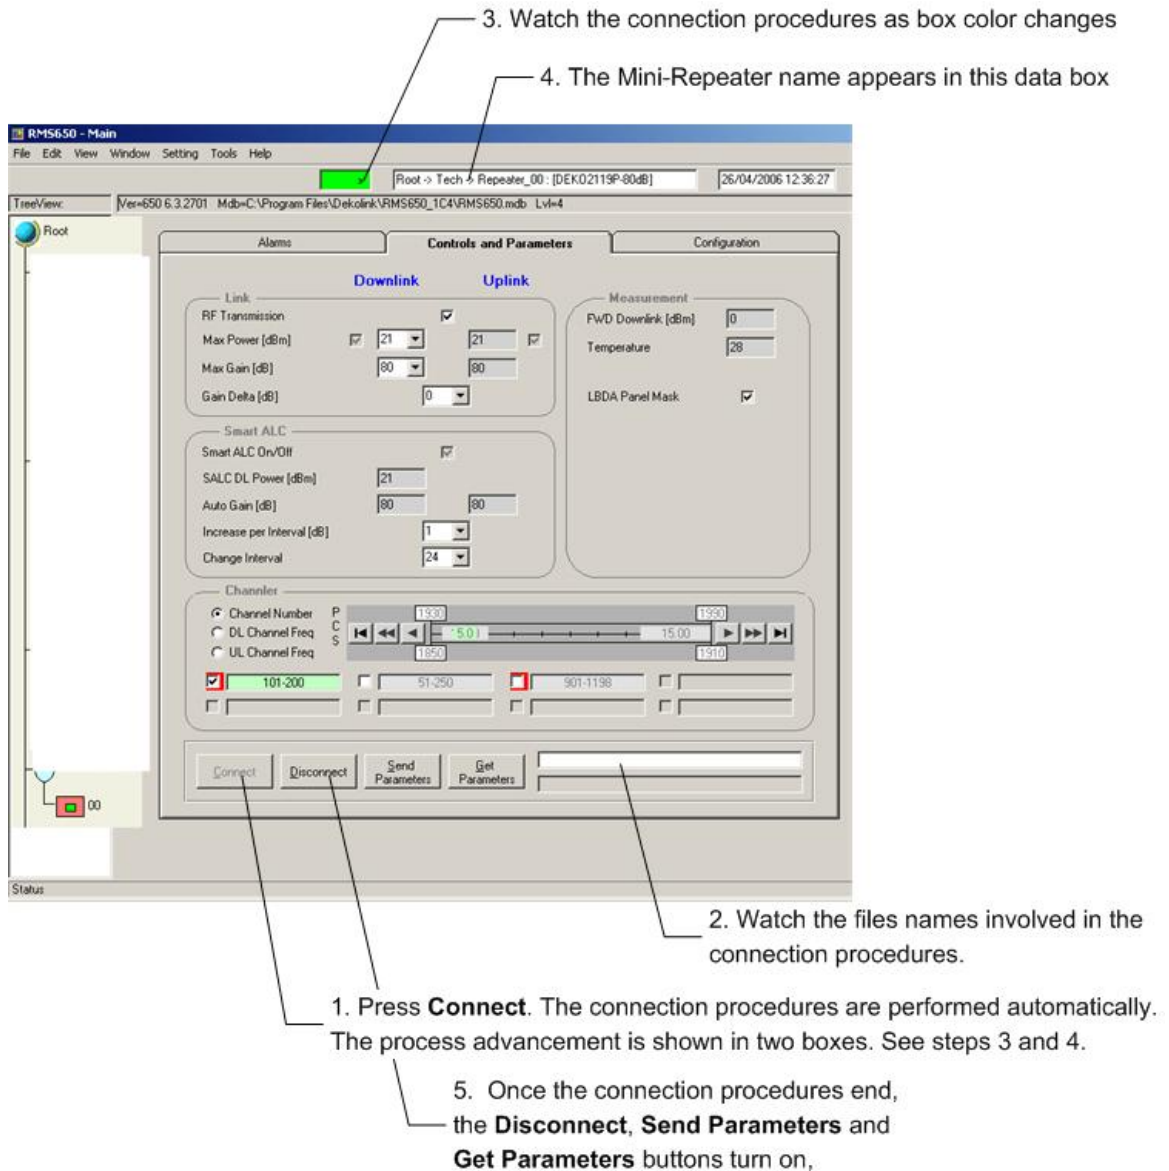

Figure 14: Connection Procedure
To connect initiate a local setup session (see fig 14):
8. Watch the unit connection procedure. When the connection is reached the upper window rectangle in the main screen is colored green (see Figure 14).